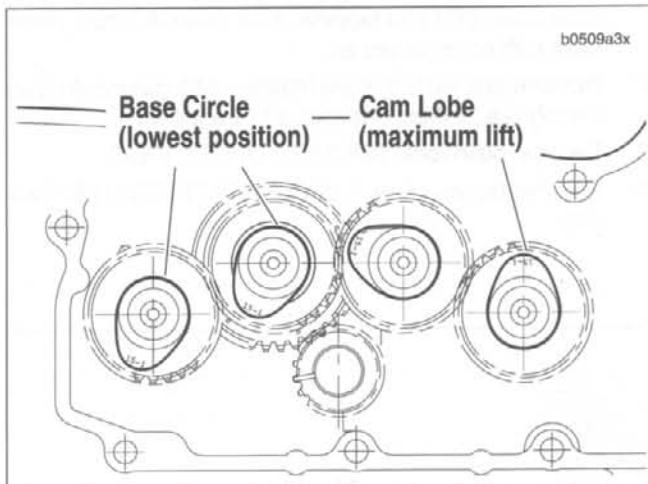

Figure 3-63. Base Circle
1. See Figure 3-63. Rotate engine so that both lifters, from the cylinder being serviced, will be installed on the base circle (1) of the cam.